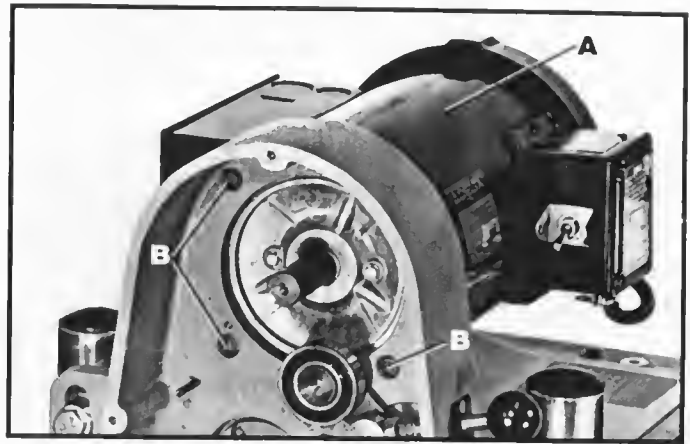

Fig. 7
1. Hold the motor (A) Fig. 7, in position, as shown, line up the four holes in the guard with the four tapped holes in the motor end bracket and fasten the motor in place using the four allen head screws, three of which are shown at (B) Fig. 7.